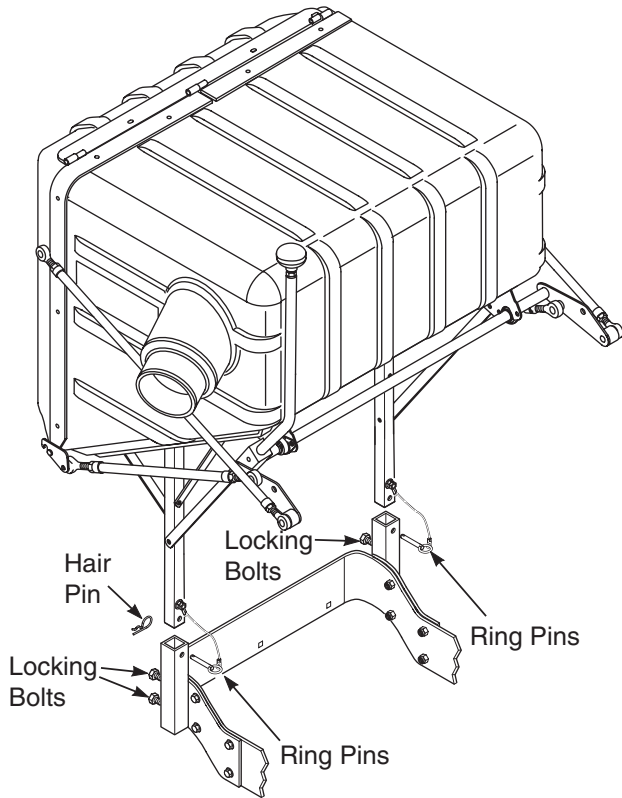

FIGURE 3-6
13. With help from an assistant, install the hopper assembly to the machine by installing the mounting post into the hopper mounting brackets and secure with the ring pins. Tighten the bolts and jam nuts. See Figure 3-6.